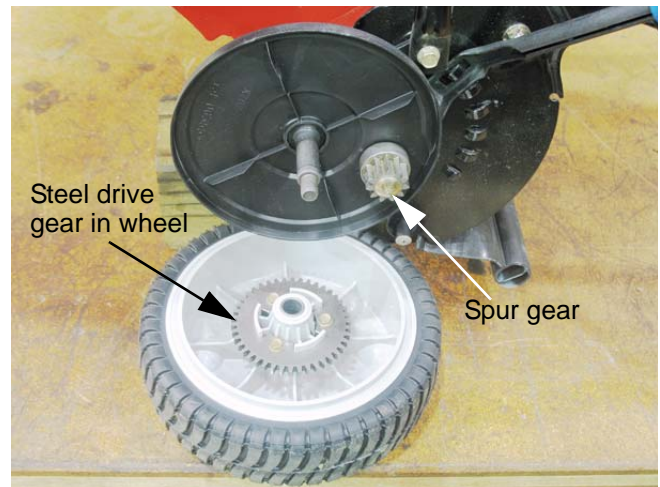

Figure 6.3
- 2a. Remove the rear wheels using a 1/2" wrench. See Figure 6.3.